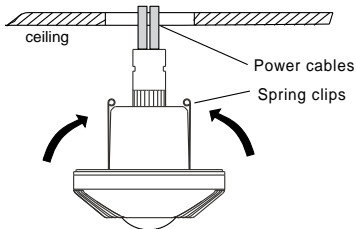

Figure 6. Bend the spring clips
5. To install the sensor in the ceiling, press the spring clips together (Figure 6) and push the sensor upward until the unit is flush with the ceiling.